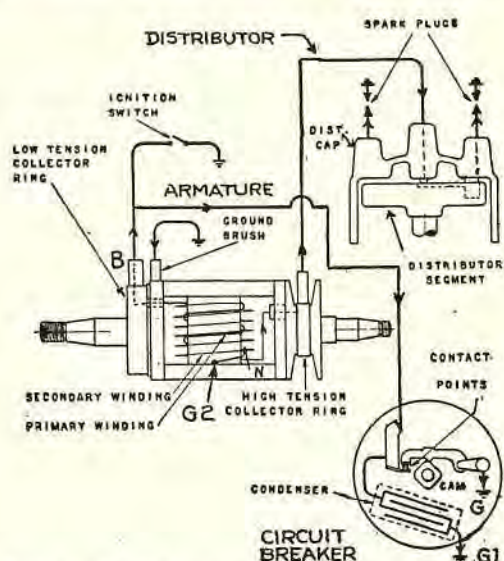

Fig. 2. Wiring diagram of the Remy "series 1500" high-tension magneto.
Setting an "armature"-type magneto armature to the time of break of interrupter points is usually accomplished by measuring the distance (X) (Fig. 2, page 271) between one of the pole pieces and the adjacent edge of the armature. The breaker is then adjusted so that the points are just separating. This is taken as the advanced position of the magneto, and with this setting the maximum spark is obtained.
Timing an "armature"-type armature with engine: The usual practice is to place the piston on top dead center of compression stroke with the breaker box fully retarded and with points just opening. This of course increases the width of opening of (X) (Fig. 2) with a corresponding weakening of the spark. To advance the spark, the breaker box is moved so that the points open sooner in relation to the piston, thereby obtaining the best spark when running.
Setting Dixie armature or "rotor" to breaker points: The distance (X) (Fig. 2, page 271) (armature-type illustration used to explain Dixie) is usually .020", just as points are breaking. The maximum rate of change of flux occurs in this position of rotor (X, Fig. 2), where the rotor wings have just reversed the direction of the flux through the core.
The circuit diagram (Fig. 2) shows clearly how short and direct both primary and secondary circuits are, and how accessible are all parts of these circuits.